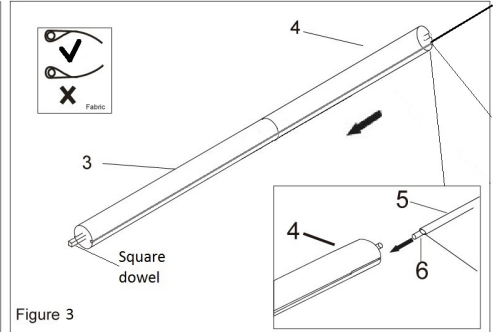

Figure 3
**Figure 3** shows the holes 4 inches (9cm) deep in the wall